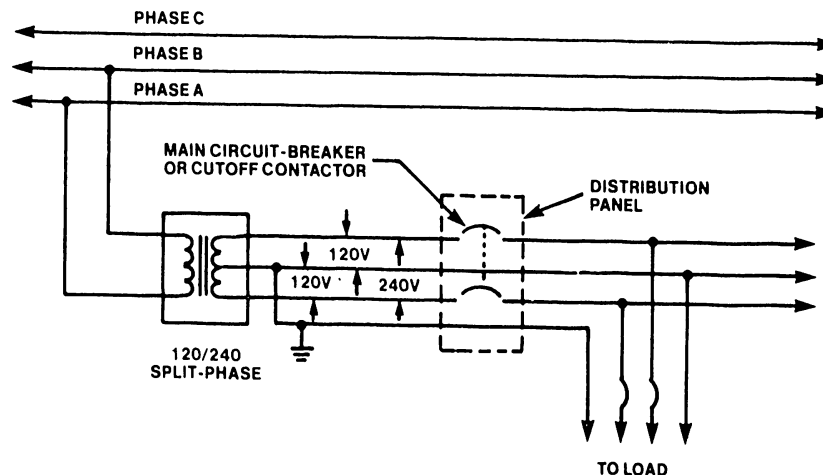

FIGURE 4-1 2-PHASE, 3-WIRE CONNECTION WITH SAFETY GROUND
2. 2-Phase Power--Power is provided by one of two configurations: 4-wire (with safety ground), 120/240 Vac split phase (180 degrees displaced); and 4-wire (with safety ground), 120/208 Vac 2 of 3 Phases. Figure 4-1 is a two-phase configuration using a center tapped transformer with 120V potential between the center tap (neutral) and either of two outer legs. A 240V potential exists between the two outside (hot) legs, and the current in the neutral leg is zero when loads on both phases are balanced. Two-phase (60 HZ) power is used in the VS 100 and certain Storage Module Drives.